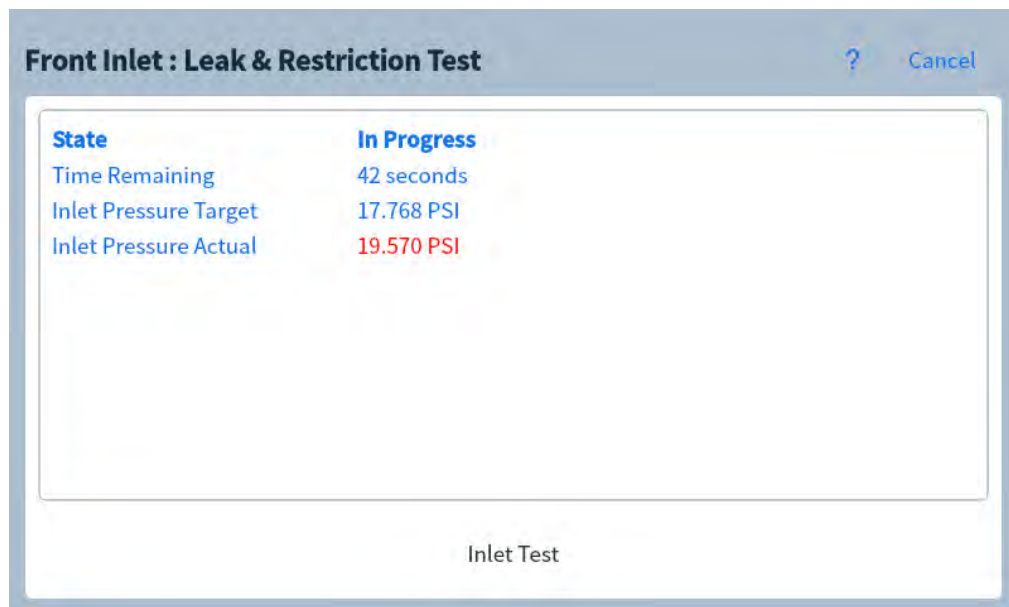

Figure 31. Leak & Restriction Test page
- 3 Select **Start Test**. Testing is initiated. Test details are displayed along with test results. See **Figure 31**.